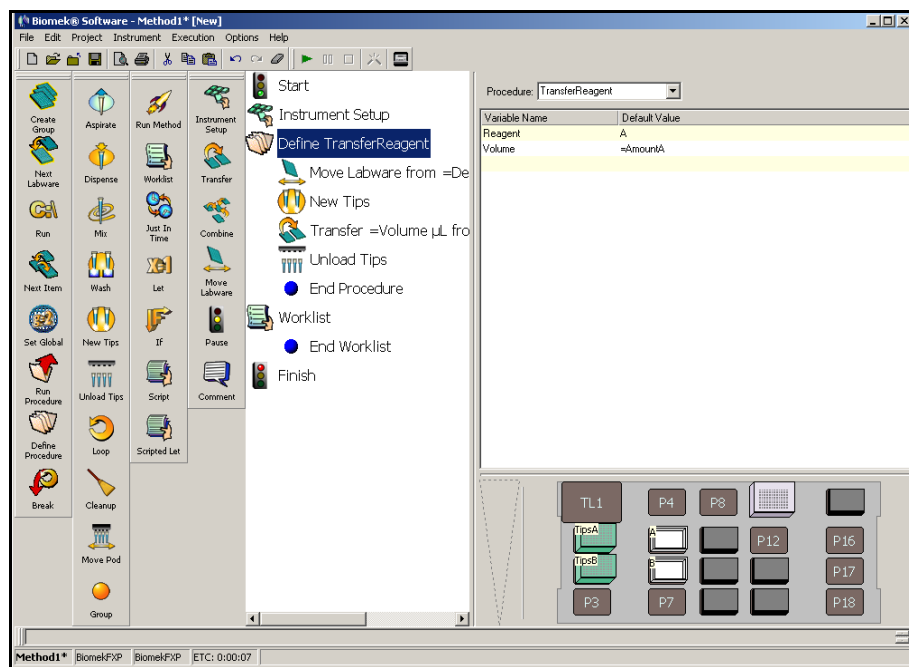

Figure 4-7. Define Procedure step configured
2. Click on the **Define TransferReagent** step. Your main editor should look like Figure 4-7, and the variables in the named procedure you just created will be used to specify when new tips are used and which reservoir will be accessed when transferring liquid.